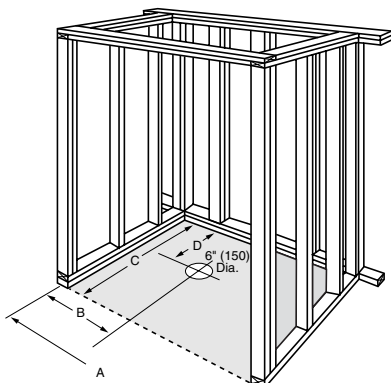

Fig. 2
- Provide 6" (150mm) floor opening for 2" (50mm) IPS and drain connection. [Fig. 2]
- a. Before placing unit in framed alcove, spread a bed of foundation material around drain extending to perimeter of shower floor [drain box-out should be back-filled with foundation material]. [Fig. 2]